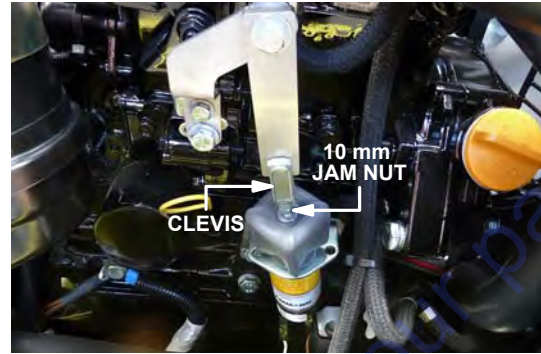

Figure 6. Loosen Jam Nut
- Loosen the 10 mm jam nut (Figure 6) on the clevis head.